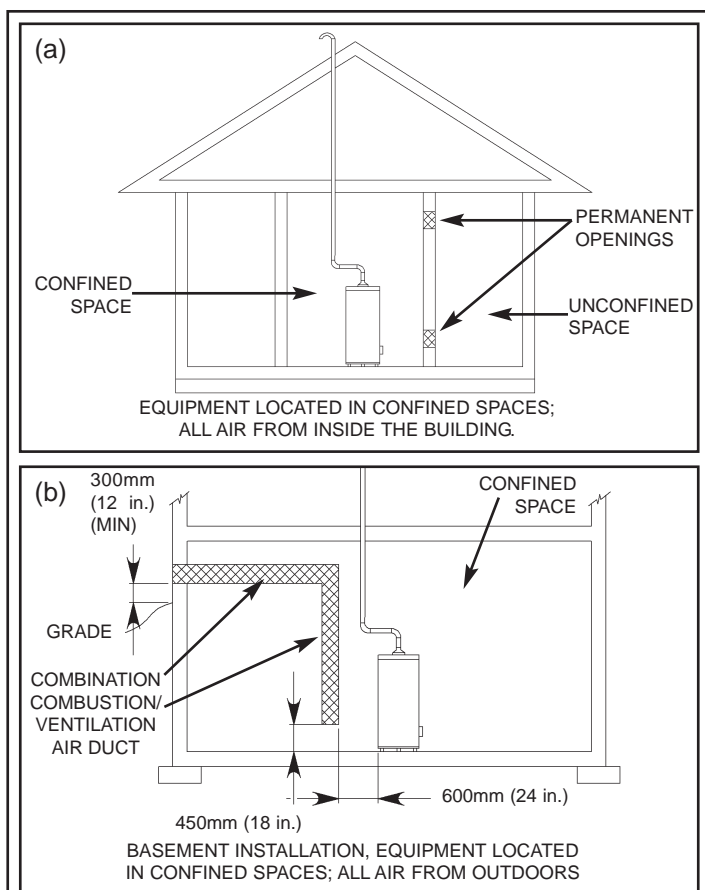

Figure 5 Combustion Air Supply Openings And Ducts (Can.)
Refer to Figure 5 (a), or (b), and Table 2 for proper sizing and location of combustion air ducts and openings. **CHECK LOCAL CODES.**
- (a). Two permanent openings shall be provided connecting the confined space (e.g., closet, small room) with the unconfined space. Each opening shall have a free area of one square inch per 1,000 BTU/hour input (22 cm²/kW) of all appliances in the confined space. The top opening shall be located as close to the ceiling as practical but never lower than the top of the heater. (see Figure 5 (a)). The bottom opening shall be located neither more than 450mm (18 in.), nor less than 150mm (6 in.), above floor level.
plus 300mm (12 in.) equals 450mm (18 in.) as shown in Figure 5 (b). All exterior vent openings are to be at least 300mm (12 in.) above the ground and clear of snow levels.